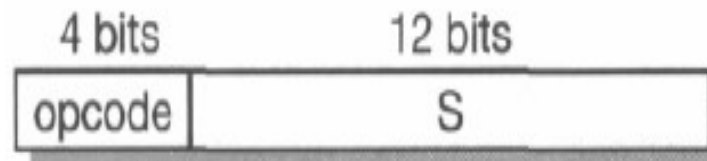

Figure 1.4 The MUO instruction format.
MU0 is a 16-bit machine with a 12-bit address space, so it can address up to 8 Kbytes of memory arranged as 4,096 individually addressable 16-bit locations. Instructions are 16 bits long, with a 4-bit operation code (or **opcode**) and a 12-bit address field (S) as shown in Figure 1.4. The simplest instruction set uses only eight of the 16 available opcodes and is summarized in Table 1.1.